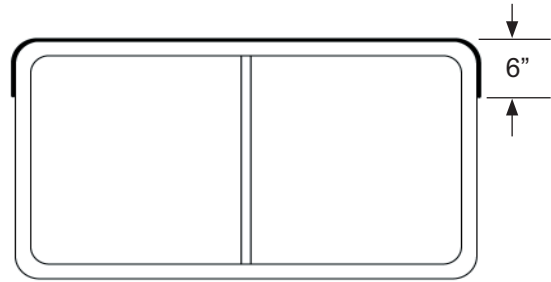

Figure 1
5. Install the new emergency egress window using the compression seal and screws supplied in the Recall kit. Apply a 1/8" bead of clear silicone sealant to the exterior upper six inches of the new window frame after installation. See Figure 1.